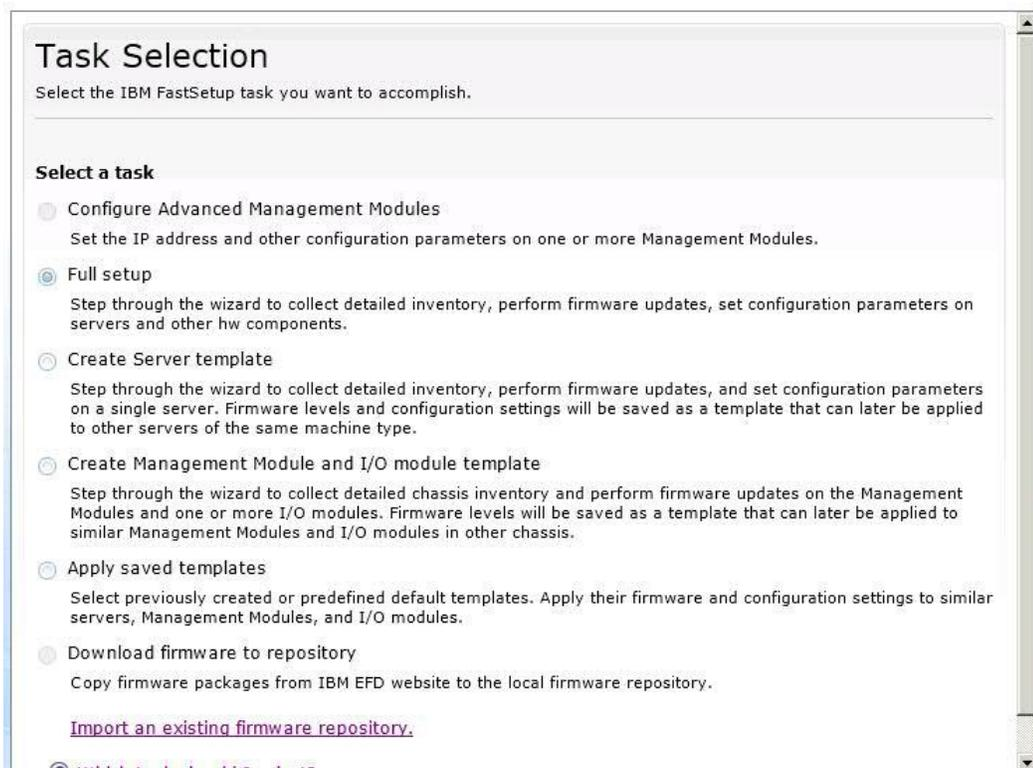

Figure 19: Task Selection panel
1. Click the “Import an existing firmware repository” link from the Task Selection panel. See Figure 19. The Import Firmware Repository panel displays.